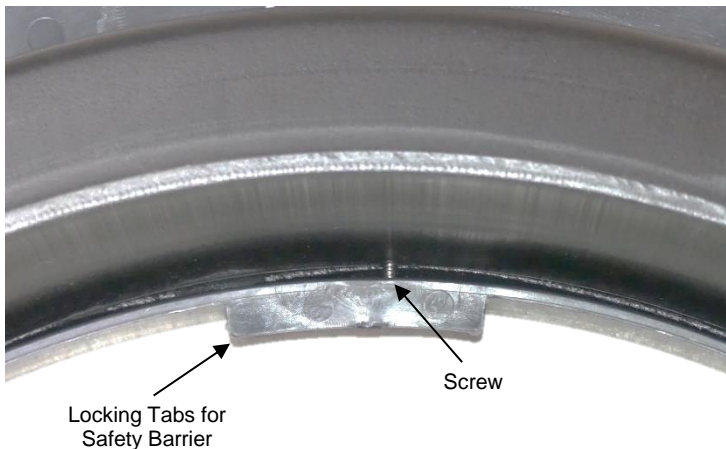
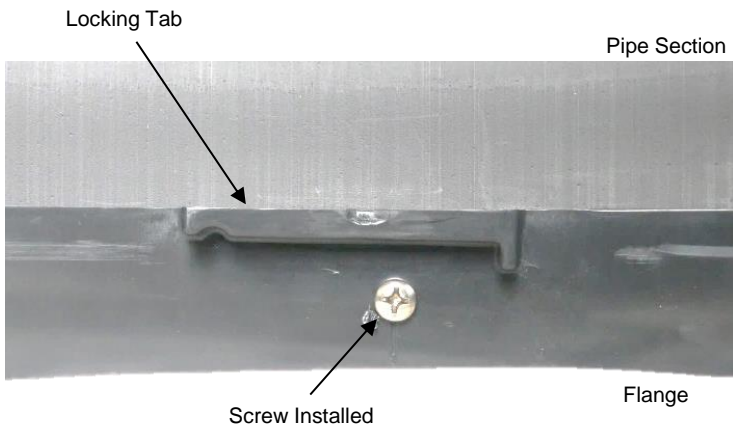
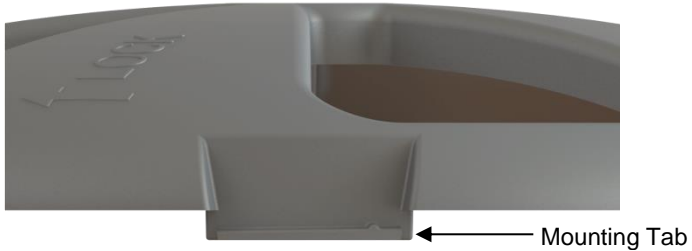
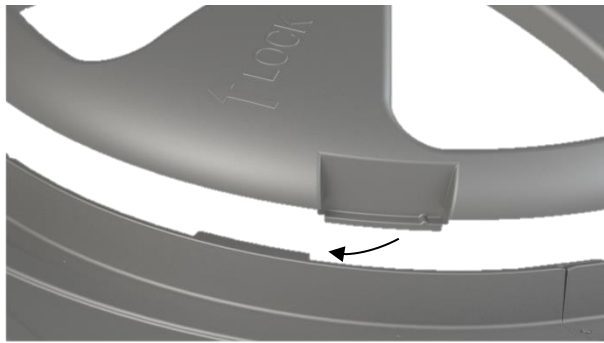

Figure 7: Screw installed (Top down view)
Figure 8: Screw installed (Side view)
Figure 9
Figure 10: Inserting Safety Barrier
- 6.) Install four (4) provided #12 x 3/4" screws into mounting dimples to attach the adapter flange to the riser pipe. Drive the screws until the head makes contact with the adapter flange & slightly compresses the flange (Fig 7.) & (Fig 8). There should be a visible gap (approximately 1/2") between base flange & pipe once installed. OPTIONAL: Mounting dimples can be pre-drilled with 1/8" bit to facilitate screw installation.
- 7.) ***Locate the four mounting tabs on the safety barrier (Fig. 9). Insert the safety barrier into the locking tabs on base flange (Fig 8), (Fig. 9) & (Fig. 10). Barrier mounting tabs may require individual adjustment and alignment while seating the barrier onto flange. Note the barrier can bend slightly to accommodate for manufacturing tolerances. Once positioned, apply downward pressure to center of barrier.***